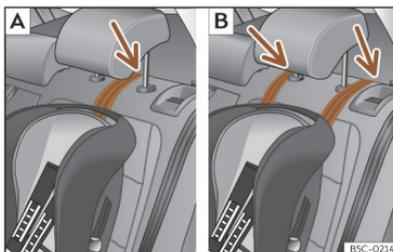
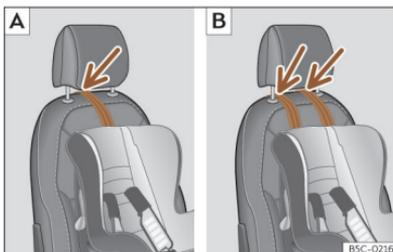

Fig. 55 Rear seats: adjustment and assembly according to the Top Tether belt.
Fig. 56 Passenger seat: adjustment and assembly according to the Top Tether belt.
- Position the belt under the headrest (according to the instructions of the seat itself, lift or remove the headrest if necessary) >>> **Fig. 55**, >>> **Fig. 56**.